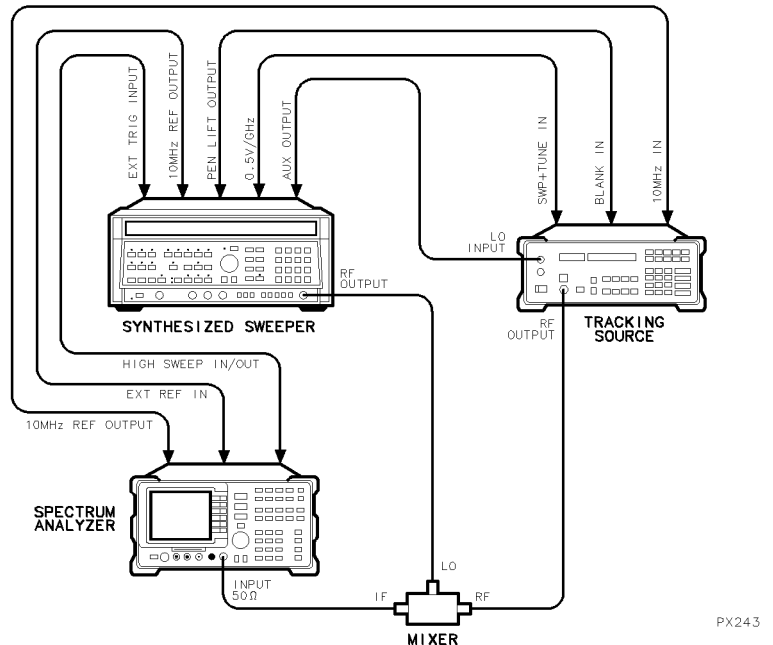

Figure 3-4. Connecting the Mixer to Measure Conversion Loss
- Connect the equipment as illustrated in Figure 3-4.